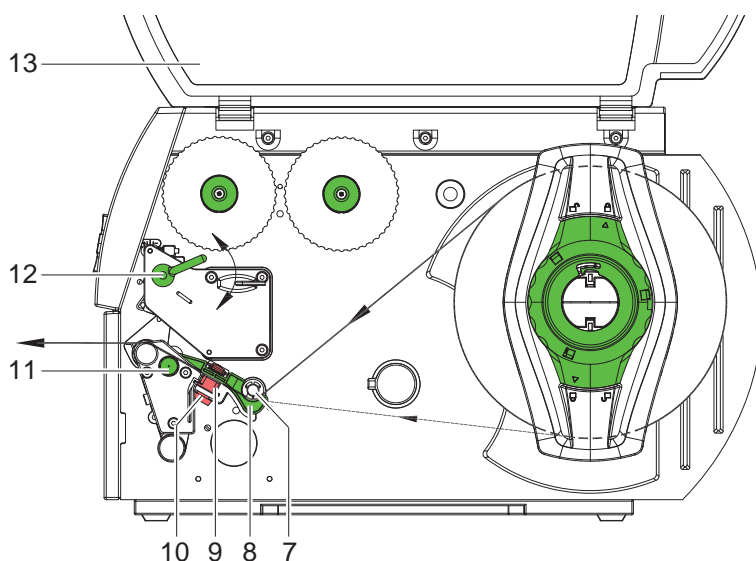

Fig. 7 Material feed path
- Loosen the knurled knob (10, fig 7) and position label sensor by moving the knurled knob in such a way that the sensor can detect the label gap or a reflex or cut-out mark.
- Turn lever (12) clockwise to lock the printhead.